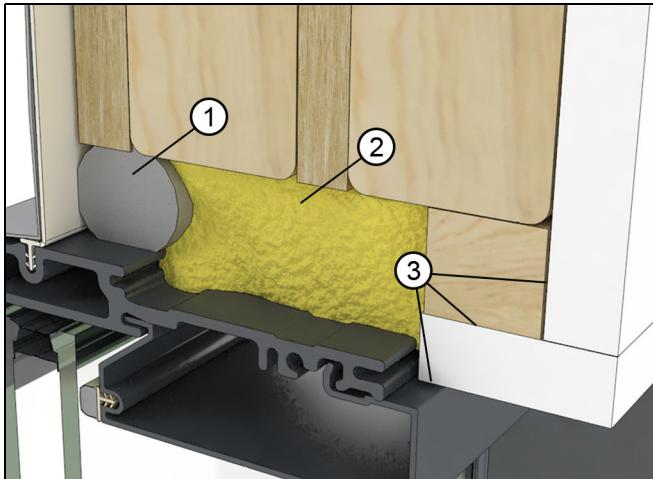

Figure 51
1. Apply insulation in the rough opening, against the backer rod installed earlier. Seal all joints where drywall returns to the window frame. See Figure 51.